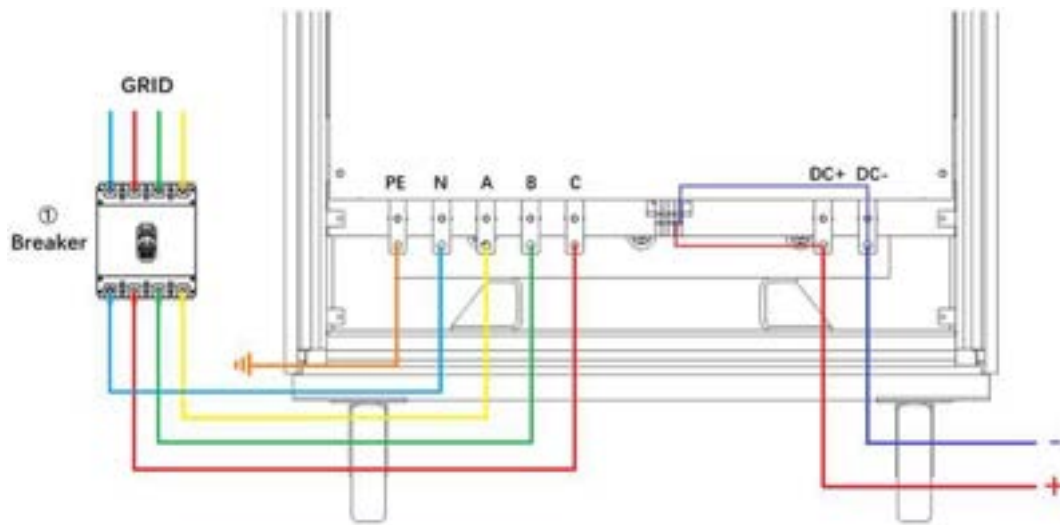

Figure 3-8
Step 4: Power off circuit breaker of the AC input side (Figure 3-8①).